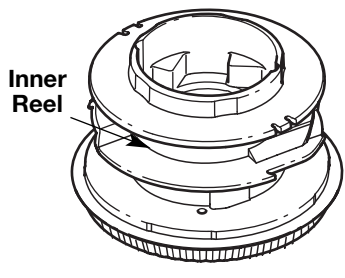

Fig. 26
4. Remove any existing line from the inner reel before cleaning. Remove any debris or grass from the knob, spring, inner reel and foam seal. Wash the inner reel with warm soapy water (Fig. 26).